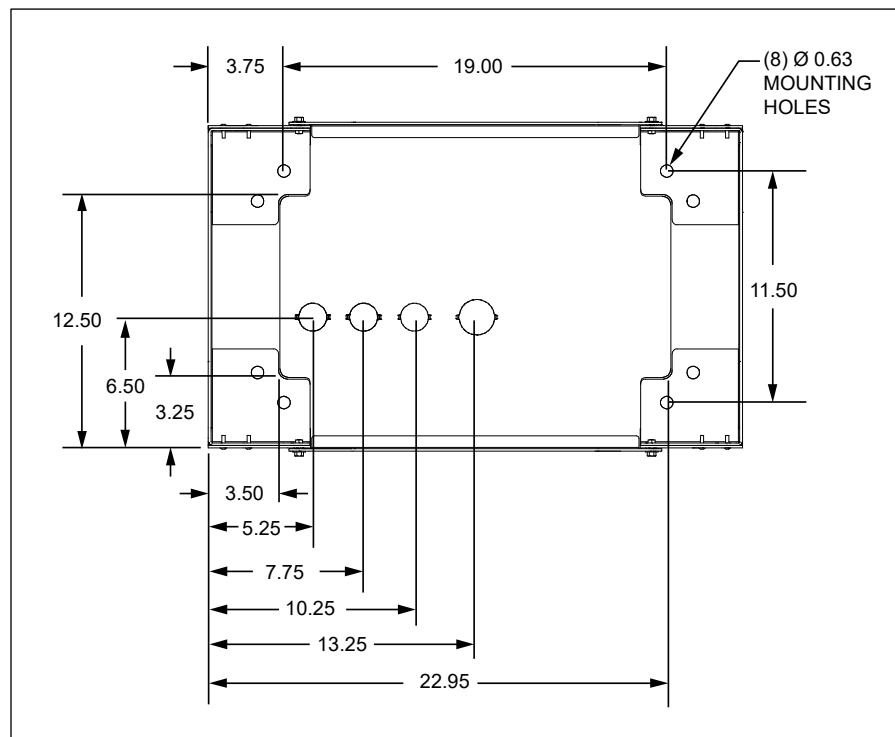

Figure 5
- Figure 5 shows the required conduit openings and mounting hole dimensions for entering/mounting the bottom of the OHC. Use these dimensions when designing the pad.